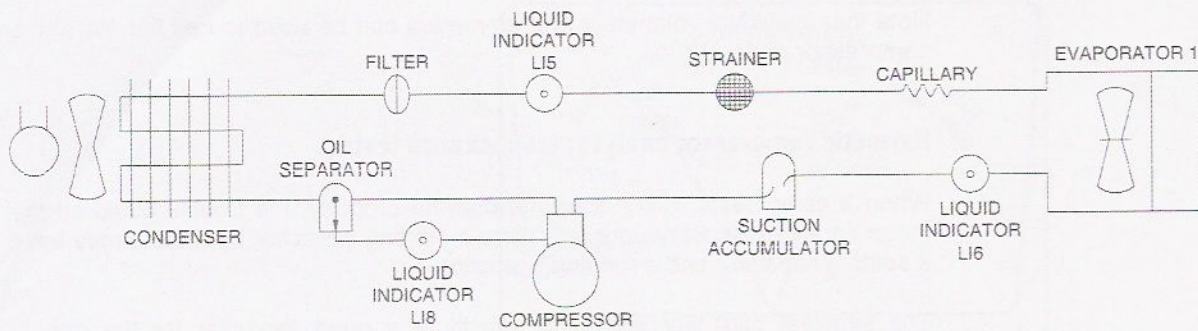
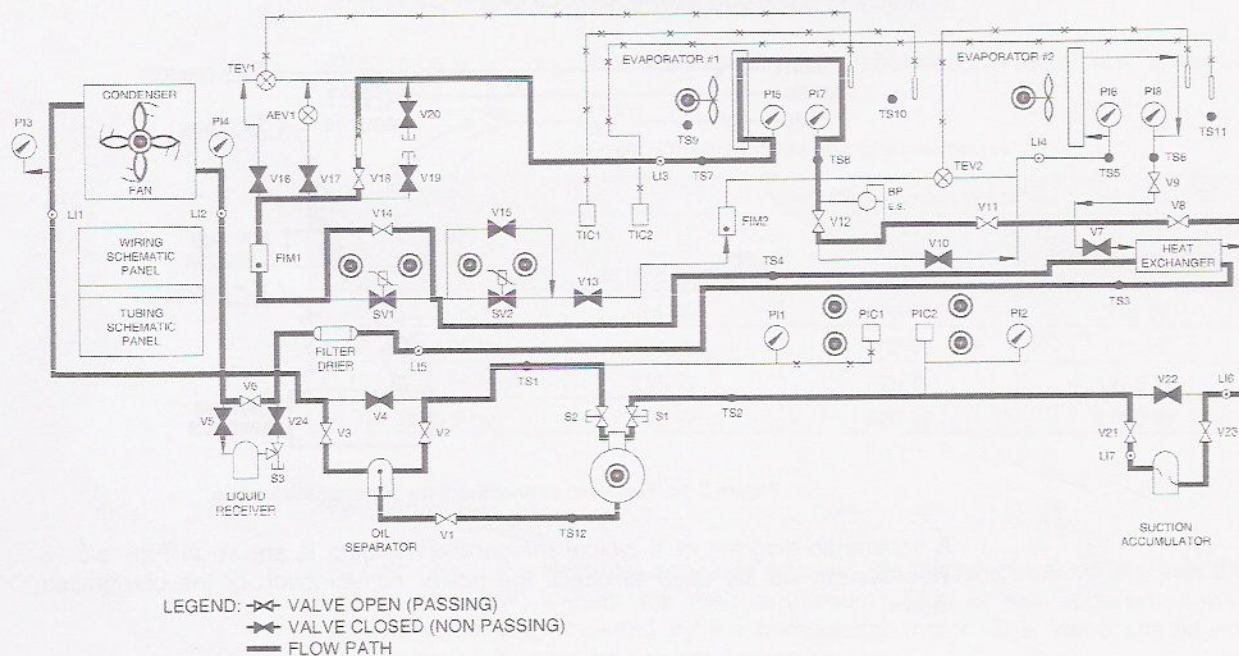

Figure 3-15. Typical refrigeration system.
Figure 3-16. Valve configuration.
A schematic diagram of a typical refrigeration system is shown in Figure 3-15. This system will be used to check the power consumption of the compressor motor.
The manual valves which must be opened or closed to arrange this system are not indicated on this schematic. However, a pictorial diagram of the system panel as shown in Figure 3-16 indicates the open and closed manual valves.
1. Open and close the manual valves to arrange the refrigeration system as shown in Figure 3-15. The trainer's schematic panel (tubing section) shown in Figure 3-16 may be used to assist at this point.